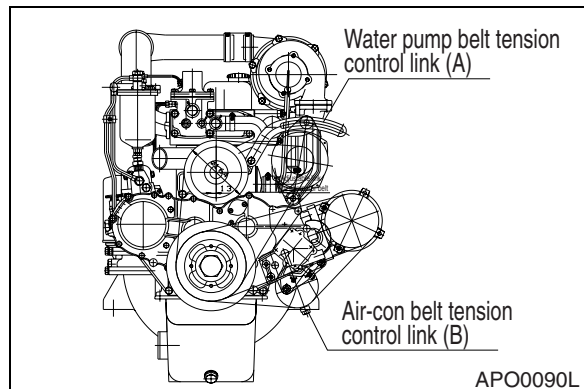

Figure 60
1. Apply 10 kg (22 lb) of force to midpoint of belt. (Figure 60). The belt should deflect 10 mm (0.4"). If belt deflects more than this, loosen control link to tighten belt tension until deflection is 10 mm (0.4"). Inspect belt for damage. If belt is damaged, replace it.